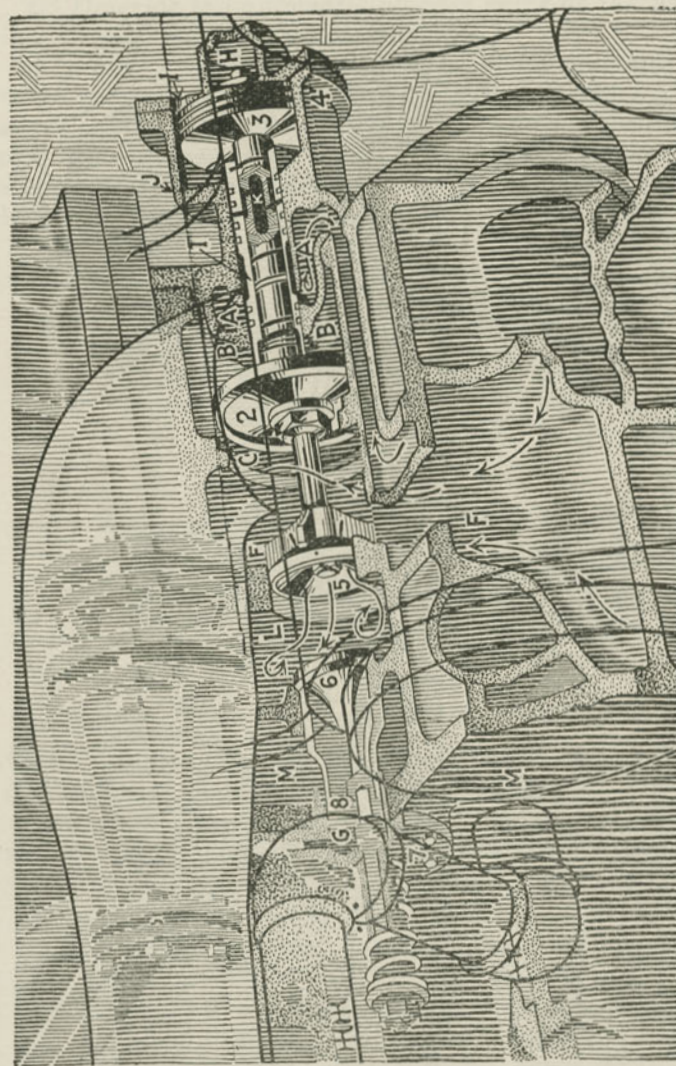

Fig. 351. Intercepting Valve in Compound Position.
A. The pressure in A opens the reducer (1) which closes the interceptor 2. Live steam is admitted to the receiver but the interceptor prevents its backing up against the exhaust side of the H. P. pistons.
A. The valve would close automatically and cut the live steam from the receiver, until the movement of the L. P. pistons lowered the receiver pressure to normal. (See Fig. 351.)